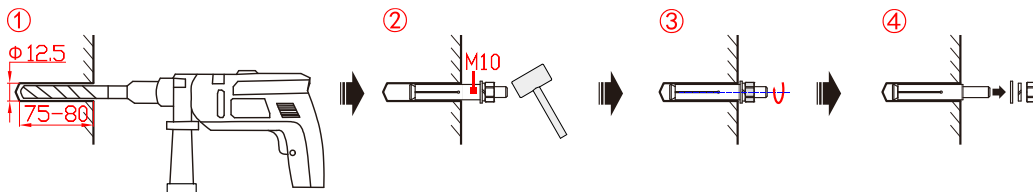

Figure3-14 Install the expansion bolt (unit: mm)
3. Install the expansion bolts, as shown in Figure3-14.